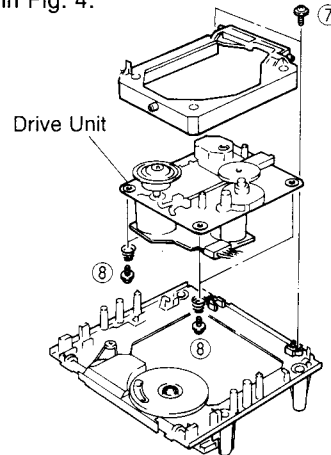

Fig. 4
- Remove 2 screws ( ⑦ ) in Fig. 4.
- Remove 4 screws ( ⑧ ) and then remove the Drive Unit in Fig. 4.